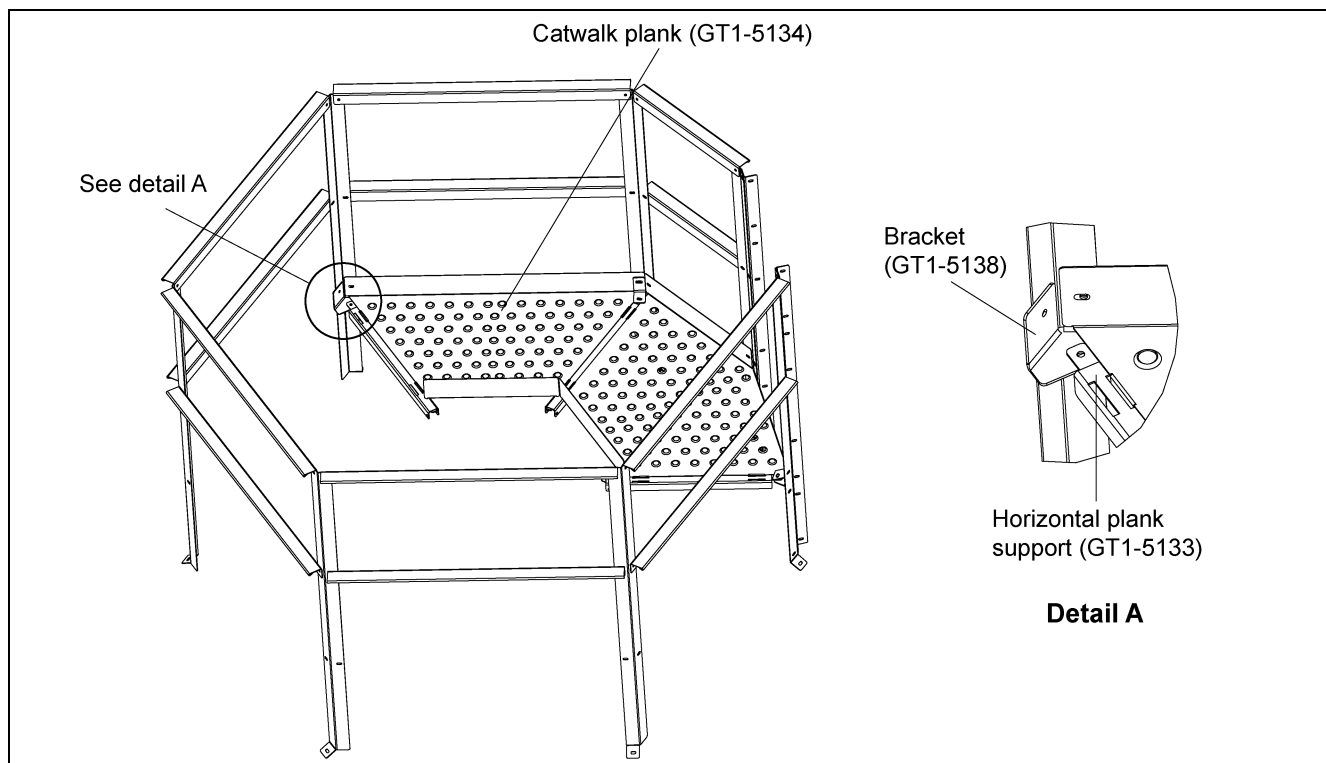

Figure 3J
8. Assemble catwalk plank (GT1-5134), bracket (GT1-5138), horizontal plank support (GT1-5133) using 5/16" hardware. (*See Figure 3J.*)